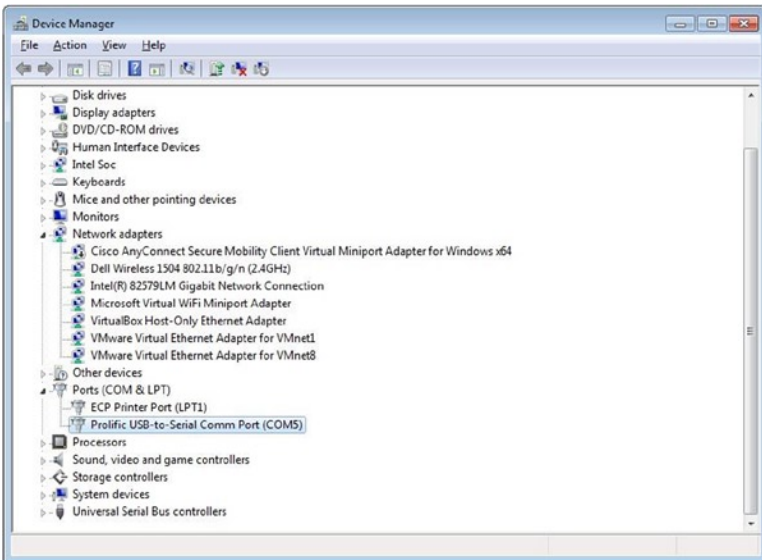

Figure 1-20. Intel Galileo COM port on Windows
2. In the Device Manager, check the COM port available under the Ports section. Figure 1-20 shows an example of a COM port enumerated as COM5.